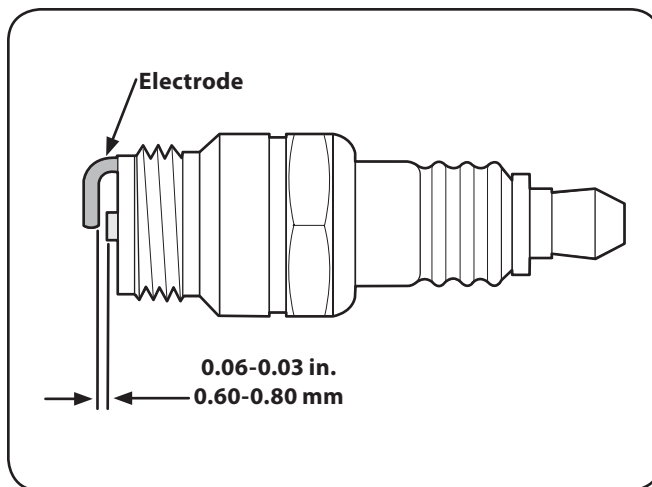

Figure 6-3
6. Measure the plug gap with a feeler gauge. Correct as necessary by bending side electrode. See Fig. 6-3. The gap should be set to 0.030 in. (0.76mm).